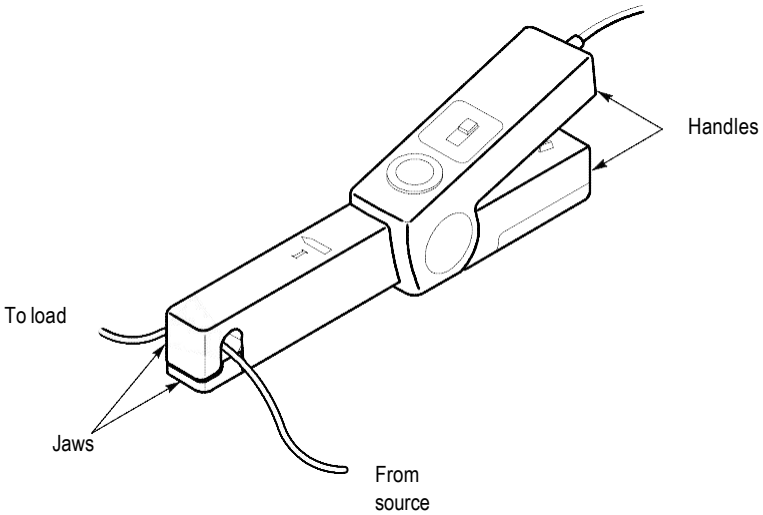

Figure 2: Connecting the A622 current probe
4. Connect the probe to the circuit by opening the jaws and clamping around the conductor. See Figure 2.